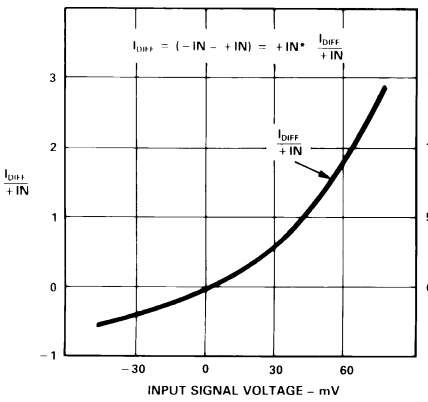

Figure 2. Differential Input Current vs. Input Signal Voltage Normalized to +IN
- ⁷Bias currents are not symmetrical with input signal level and flow out of the input pins. The input bias current of the inverting input increases with input signal voltage, see Figure 2.